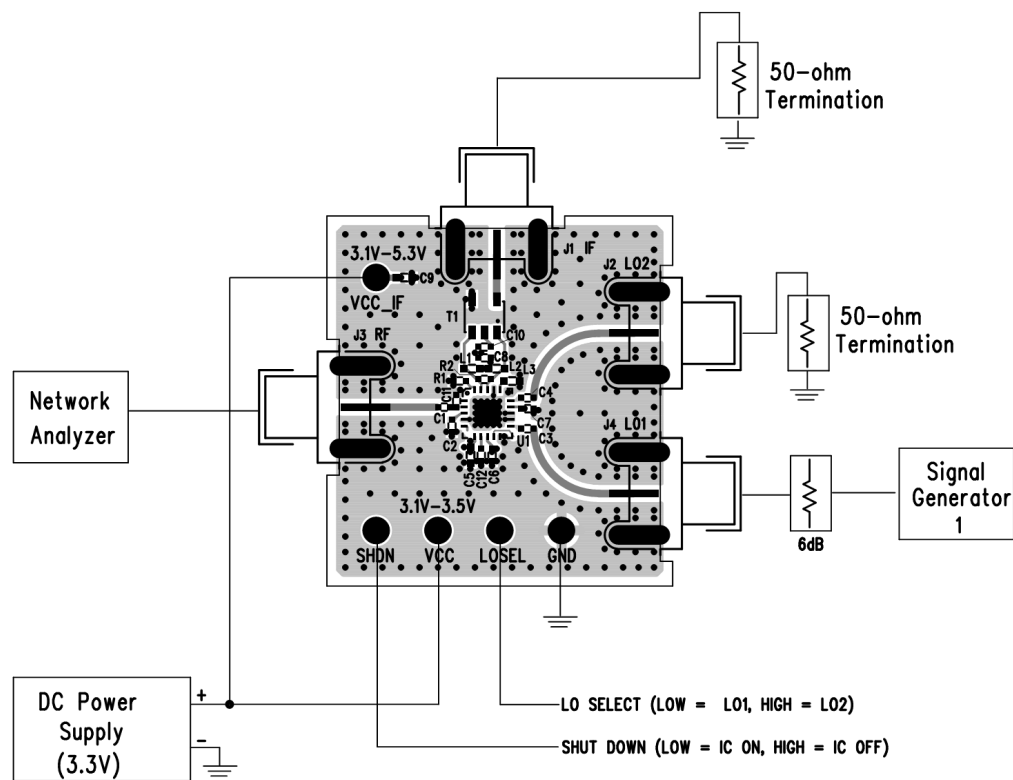
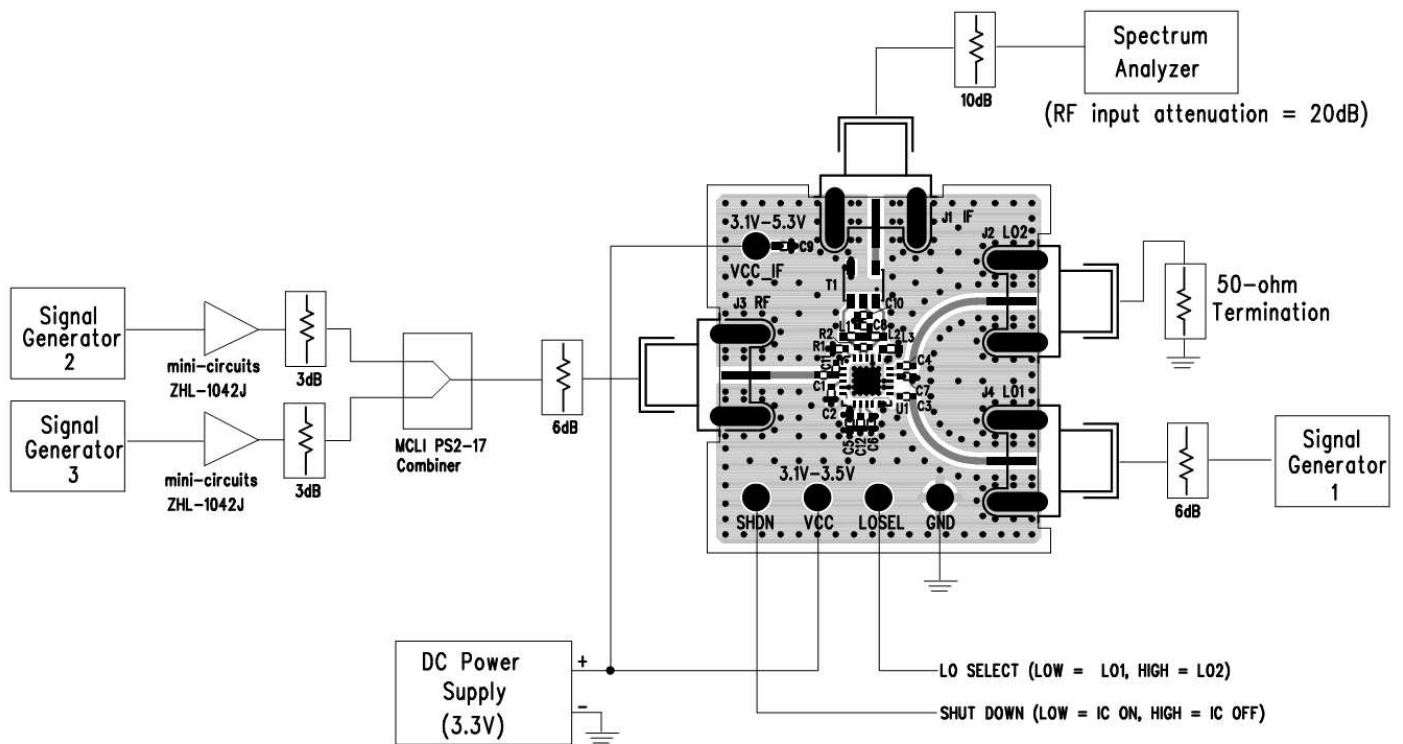
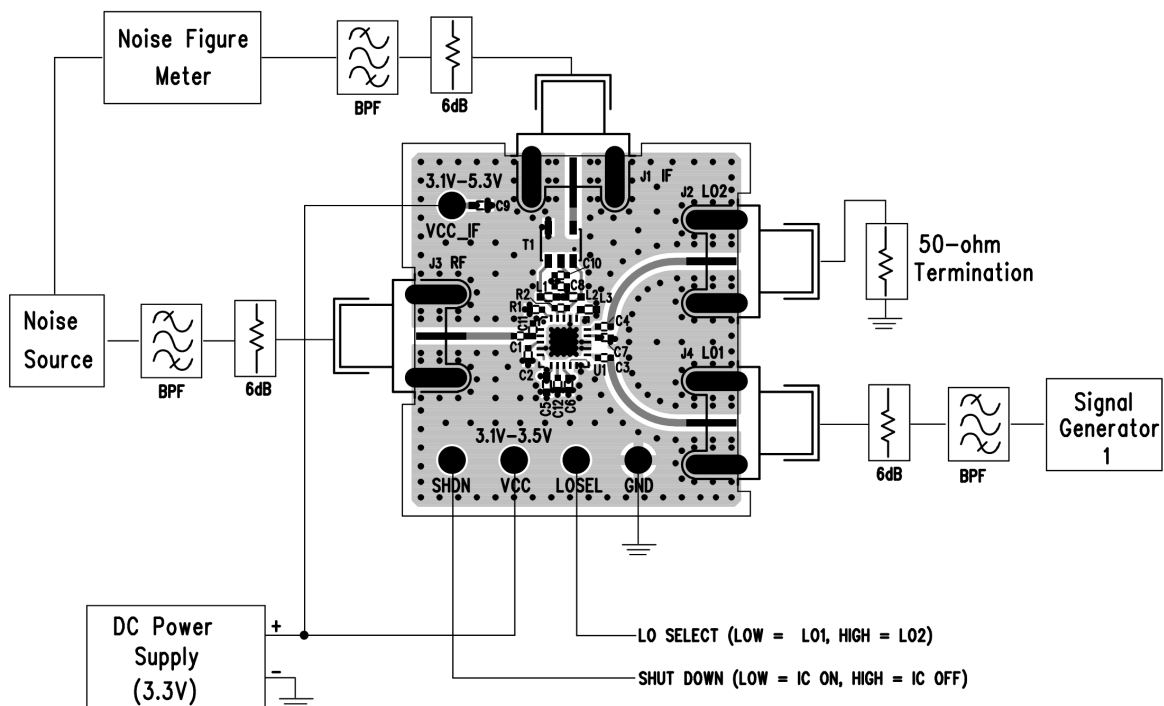

Figure 5. Proper Equipment Setup for Return Loss Measurements
Figure 6. Proper Equipment Setup for RF Performance Measurements
Figure 7. Proper Equipment Setup for Noise Figure Measurement
The LTC5542 is a high dynamic range downconverting mixer IC with very high input 3rd order intercept. Accuracy of its performance measurement is highly dependent on equipment setup and measurement technique. The recommended measurement setups are presented in Figure 5, Figure 6, and Figure 7. The following precautions should be observed:
The LTC5542 consists of a high linearity passive double-balanced mixer core and IF buffer amplifier. Due to the bi-directional nature of all passive mixers, LO \pm IF mixing product is always present at the RF input, typically at a level of 12dB below the RF input signal. If the LO \pm IF "Pseudo-Image Spur" is not properly terminated, it may interfere with the source signals, and can degrade the measured linearity and noise figure significantly. To avoid interference from the LO \pm IF "Pseudo-Image Spur", terminate the RF input port with an isolator, diplexer, or attenuator. In the recommended measurement setups presented in Figure 6 and Figure 7, the 6dB attenuator pad at the demonstration circuit's RF input serves this purpose.
Demonstration circuit 1431A-C is easy to set up to evaluate the performance of the LTC5542. Refer to Figure 5, Figure 6, and Figure 7 for proper equipment connections and follow the procedure below:
3. Connect all test equipment as shown in Figure 5 with the signal generator and the DC power supply turned off.
1. Connect all test equipment as shown in Figure 6 with the signal generators and the DC power supply turned off.
2. Connect all test equipment as shown in Figure 7 with the signal generator and the DC power supply turned off.